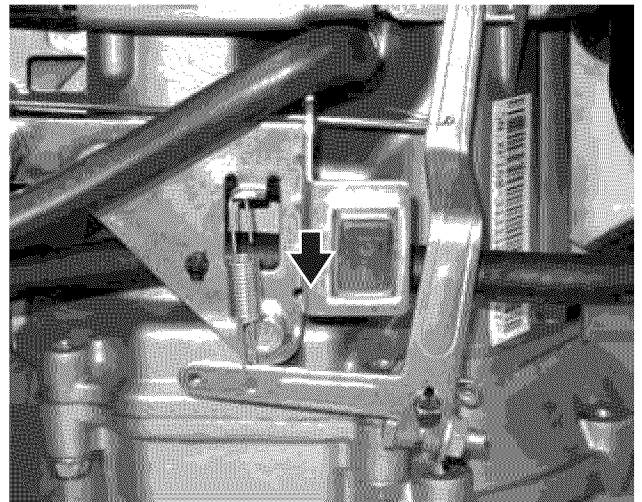

Figure 36 – Engine Stop Switch ON Position
- Move the engine stop switch down to the **ON (I)** position (see Figure 36).